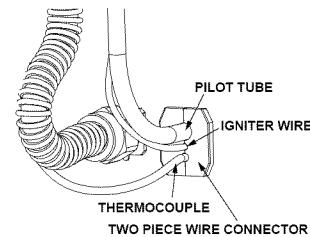

FIGURE 37.
- Position the new pilot tube through the largest opening of the two piece wire connector. **NOTE:** The largest opening should be located at the top position. The igniter wire should be located in the middle opening and thermocouple in the bottom opening (Figure 37).